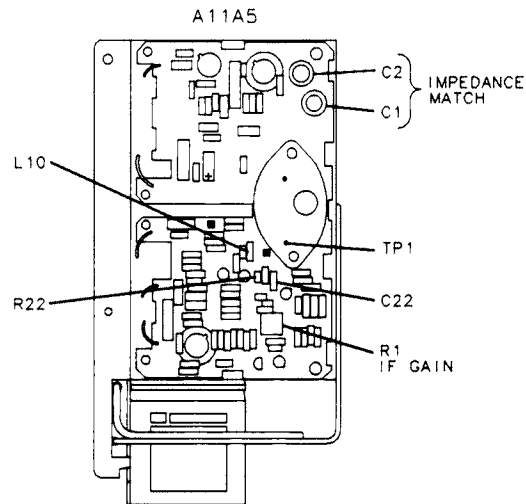

Figure 3-73. A11A5 Adjustment Locations
30. Remove the cover from A11A5 YTO Loop Sampler Assembly. Locate DRIVER MATCHING adjustments A11A5C1 and A11A5C2, SAMPLER DC test point A11A5TP1, and IF GAIN adjustment A11A5R1. These parts are indicated on the cover of the A11A5 YTO Loop Sampler Assembly and in Figure 3-73.
If A11A5R1 IF GAIN does not have sufficient adjustment range, change the value of factory-select component A11A5L10. An increase in the value of A11A5L10 will increase the IF OUT power level at A11J5 IF OUT. Refer to Table 3-3 for the acceptable range of values for A11A5L10, and to Table 3-4 for HP part numbers. See Figure 3-73 for the location of A11A5L10.
If the power level of the displayed fundamental below 20 MHz is too low, decrease the value of factory-select component A11A5C22. If the power level of the displayed fundamental between 20 MHz and 30 MHz is too low, decrease the value of factory-select component A11A5R22. If the power level of the displayed fundamental above 30 MHz is too high, increase the value of factory-select component A11A5L10. Refer to Table 3-3 for the acceptable range of values for A11A5C22, A11A5R22, A11A5L10, and to Table 3-4 for HP part numbers. See Figure 3-73 for the location of A11A5C22, A11A5R22, and A11A5L10.